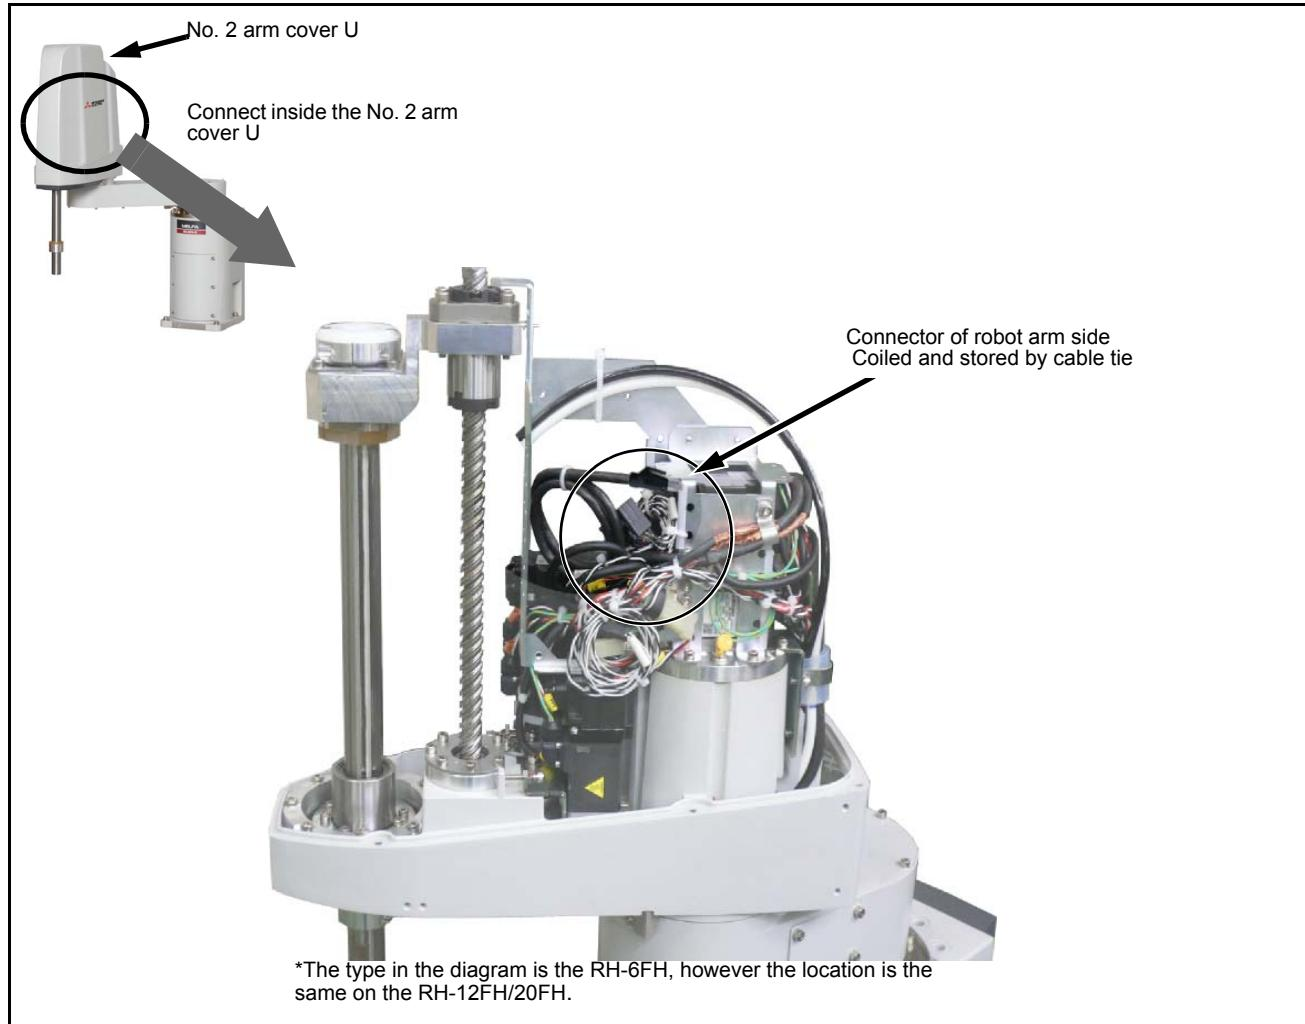

Fig.3-4 : Installing the hand output cable
Fig. 3-4 shows the hand output cable's storage location on the robot.
- 2) The hand output cable is stored in the location shown in Fig. 3-4. Pull out and check the connectors (GR1, GR2).